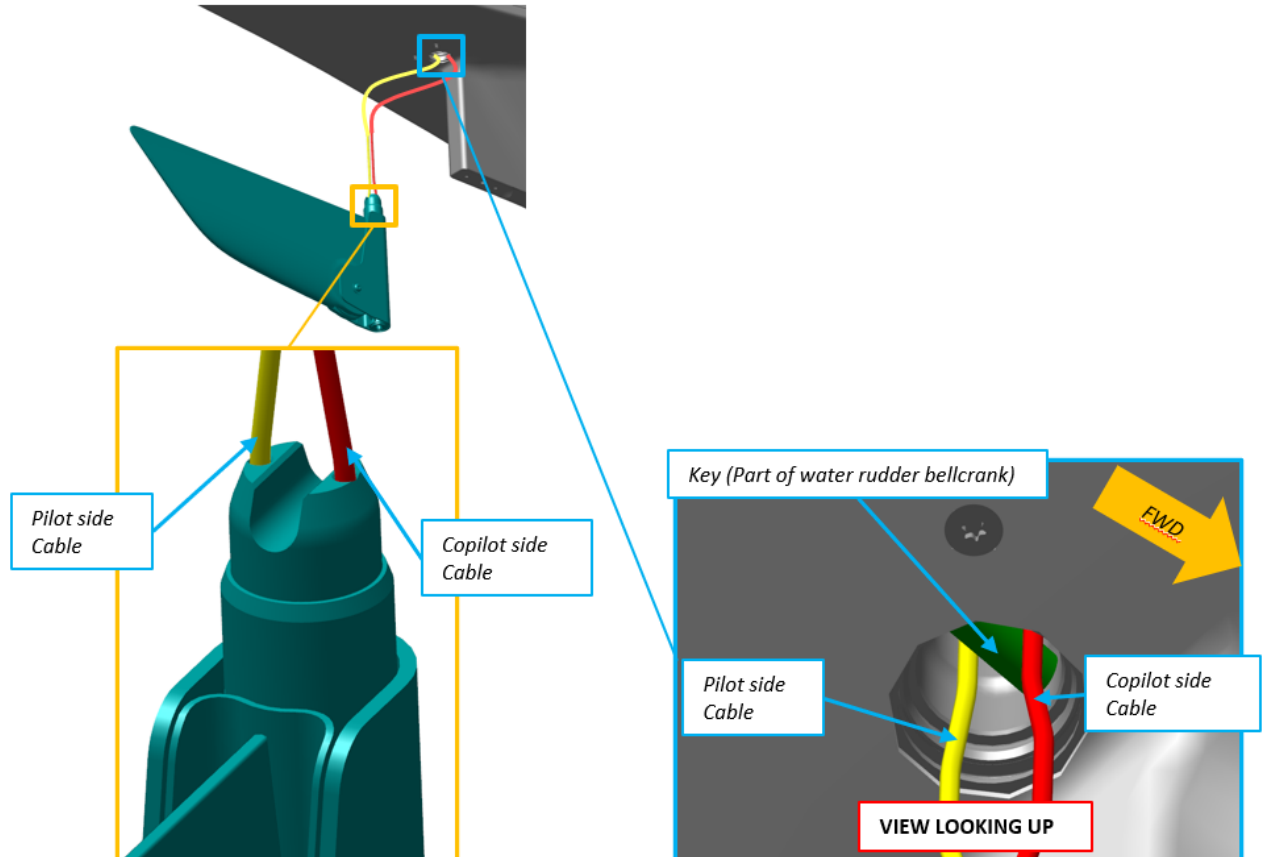

Figure 9. Water rudder cables, key
- m. Insert the two cable ends up through the water rudder bellcrank assembly in the hull. There is a key in the bore of the water rudder bellcrank, visible from the bottom. The rudder right-side cable must pass to the right of the key and the left cable to the left of it. **(Figure 9)**